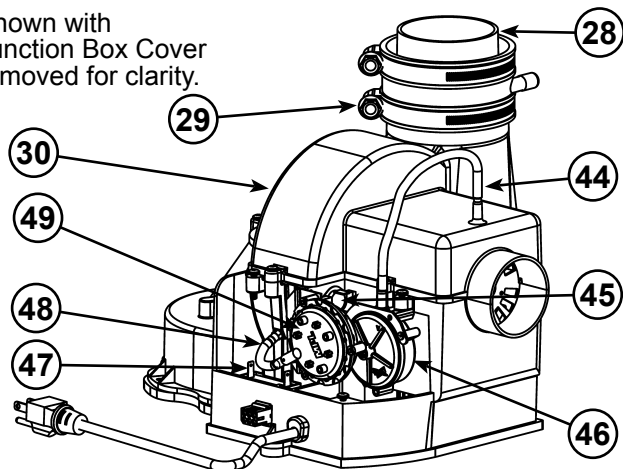

Figure 5.
| 8 T&P Valve                                                             | 25 Baffle Assembly                                                                       | 44 Air Tubing (Intake) (see Figure 5)                           |
| 9 * Discharge Pipe                                                      | 26 Hot-Water Outlet Nipple/Anode                                                         | 45 Blower High Limit Switch (see Figure 5)                      |
| 10 **Combo Heating System Return Inlet (Optional)                       | 27 *Inlet Water Shut-off Valve                                                           | 46 Intake Air Pressure Switch (NC) (inside box) (see Figure 5)  |
| 11 Gas Control Valve/Thermostat (Honeywell)                             | 28 ***Rubber Coupling (see Figure 5)                                                     | 47 Capacitor (see Figure 5)                                     |
| 12 Gas Valve Electronic Control Module And Cover (Honeywell)            | 29 Gear Clamp (see Figure 5)                                                             | 48 Air Tubing (Exhaust) (see Figure 5)                          |
| 13 Drain Valve                                                          | 30 ***Blower with Power Cord (see Figure 5)                                              | 49 Exhaust Air Pressure Switch (NO) (inside box) (see Figure 5) |
This device is located on the blower (see Figure 5, item 45) and limits the maximum temperature of the blower. If the blower temperature rises above the temperature setting, the switch opens causing the heater to shut down.
The blower/heater is equipped with two air pressure switches located in the junction box (see Figure 5, item 46 and item 49). These devices are connected in series and monitor the air pressure produced by the blower. In the event that the exhaust venting becomes blocked or sufficiently restricted, the normally open (NO) air pressure switch will shut down the heater. In the event that the intake pipe becomes sufficiently blocked or restricted, the normally closed (NC) air pressure switch will shut down the heater.